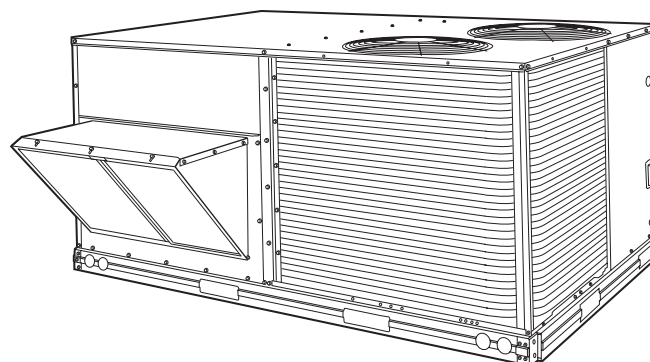

Fig. 1 — Typical Unit
1. Read and become familiar with these installation instructions before installing this unit (Fig. 1).
Unit is shipped in the vertical airflow configuration (see Fig. 1). To convert to horizontal discharge, remove horizontal duct opening covers. Using the same screws, install covers with insulation-side down (facing outside) on the unit on vertical duct openings. Seals around duct openings must be tight.